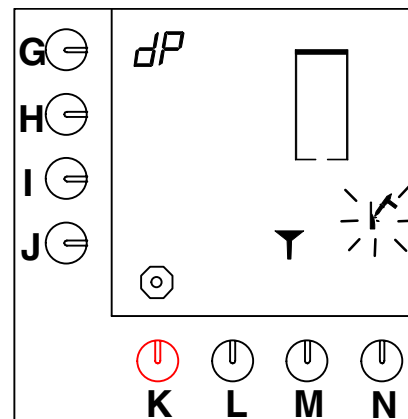

Fig. 23 Hot water system asks for descaler
- A signal sounds, the hammer symbol flashes and a funnel appears on the display (fig.23 ).